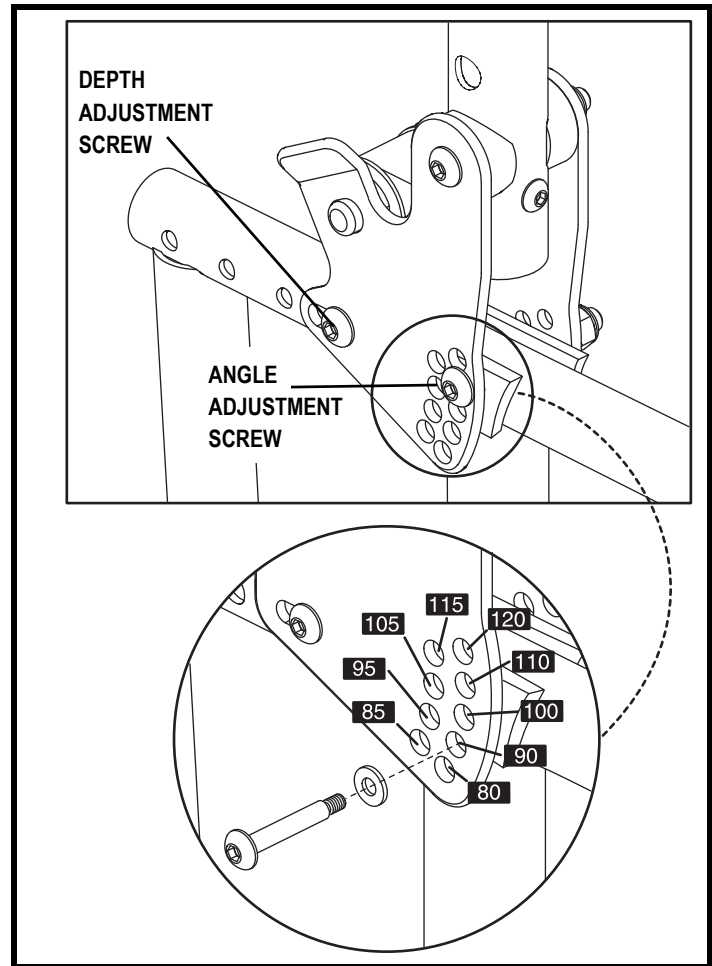

Figure 20. Seatback Angle Adjustment (Depth-adjustable Side Frame Shown)
1. Push the button on both sides of the anti-tip wheel at the same time and move the anti-tip wheel up or down to unlock it. **See figure 20.**
2. Remove the angle adjustment screw and loosen the depth adjustment screw. **See figure 20.**
4. Reinstall the angle adjustment screw and tighten the depth adjustment screw. **See figure 20.**